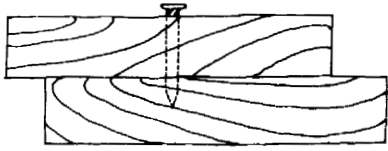

Fig. 1
Figure 1 shows two pieces of wood. There is a single nail joining the two pieces of wood together. We can pull the pieces of wood apart by pulling in the direction of the arrow
- We can separate the pieces of wood in Figure 1 by sliding one piece over the other.